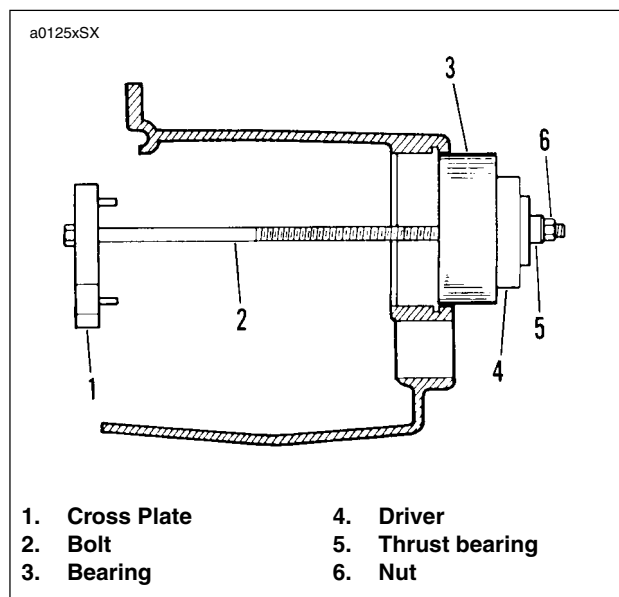

Figure 6-79. Installing Mainshaft Ball Bearing
2. See Figure 6-79. Insert bolt (2) through cross plate (1), **new** bearing (3), driver (4) and thrust bearing (5). Thread nut (6) on end of bolt. Tighten nut carefully until bearing is started in bore squarely. Tighten nut (6) until bearing is seated against shoulder in bore.